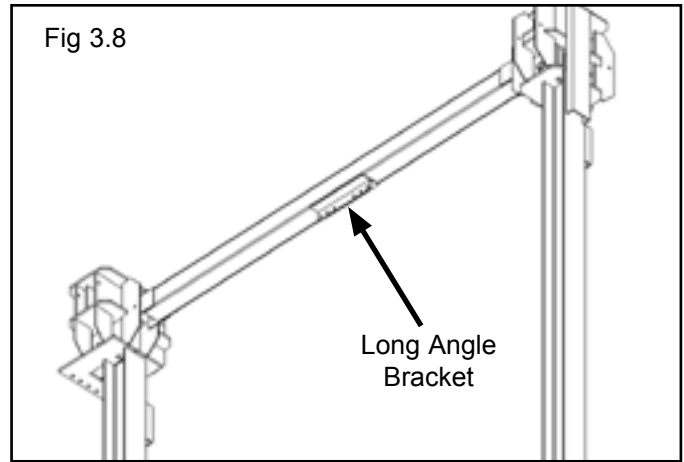

Fig 3.8
12. Locate one of the Long Crosstubes and slide the Crosstube Endplates in between the Crosstube Clevises and align the thru holes. Make sure the Long Angle Bracket faces towards the Base Plates. (See Fig. 3.8)